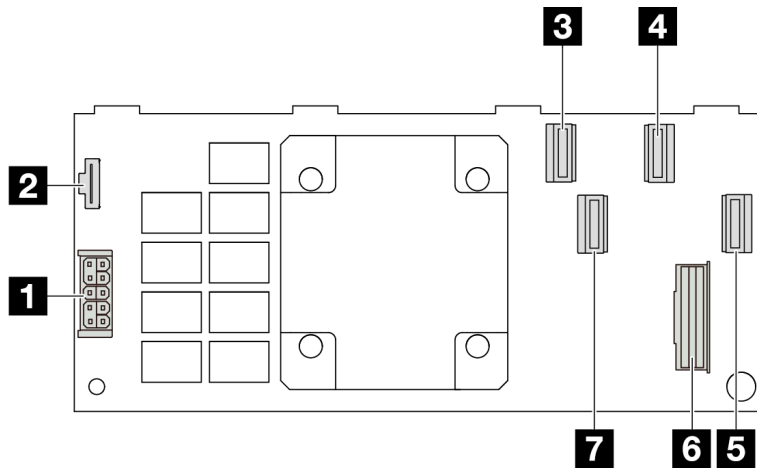

Figure 320. A Gen 4 16i CFF RAID adapter (four port connectors)
- Figure 320 “A Gen 4 16i CFF RAID adapter (four port connectors)” on page 345